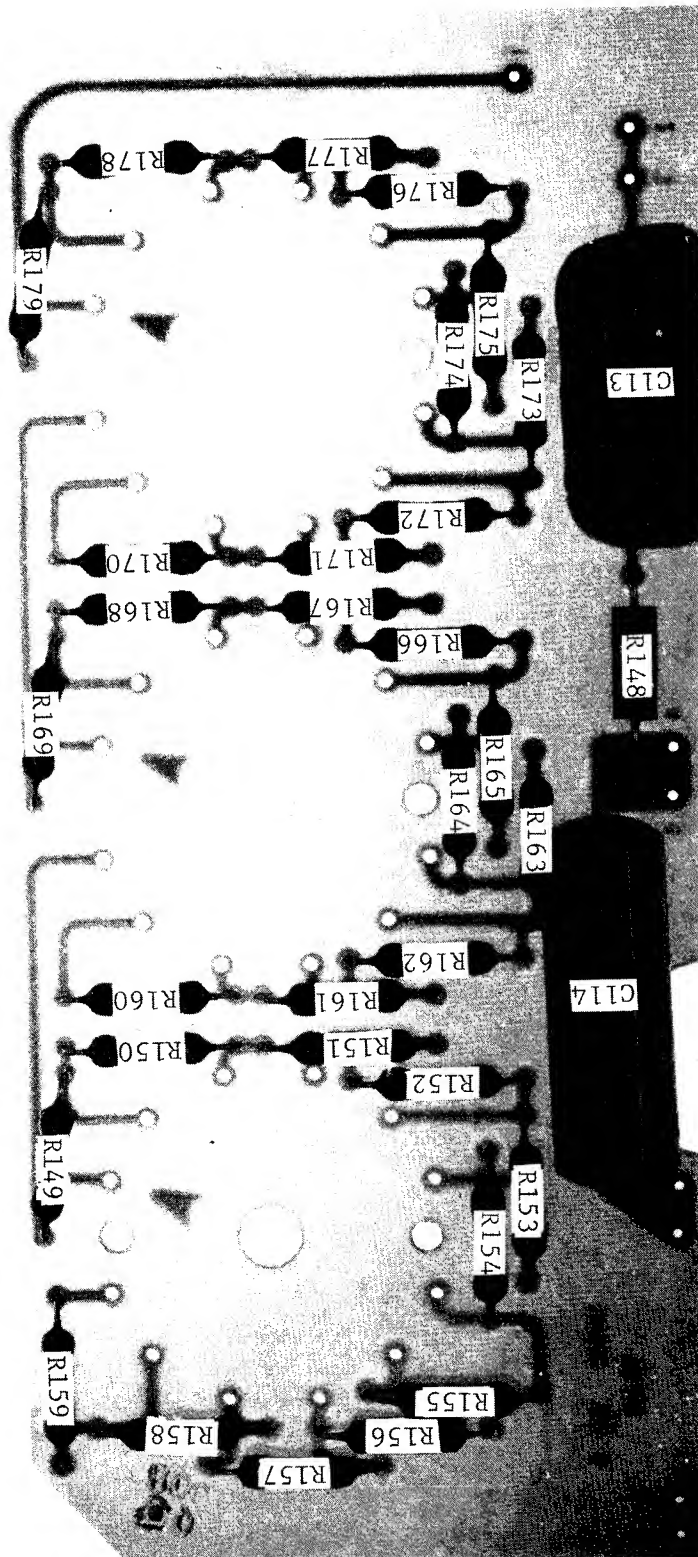
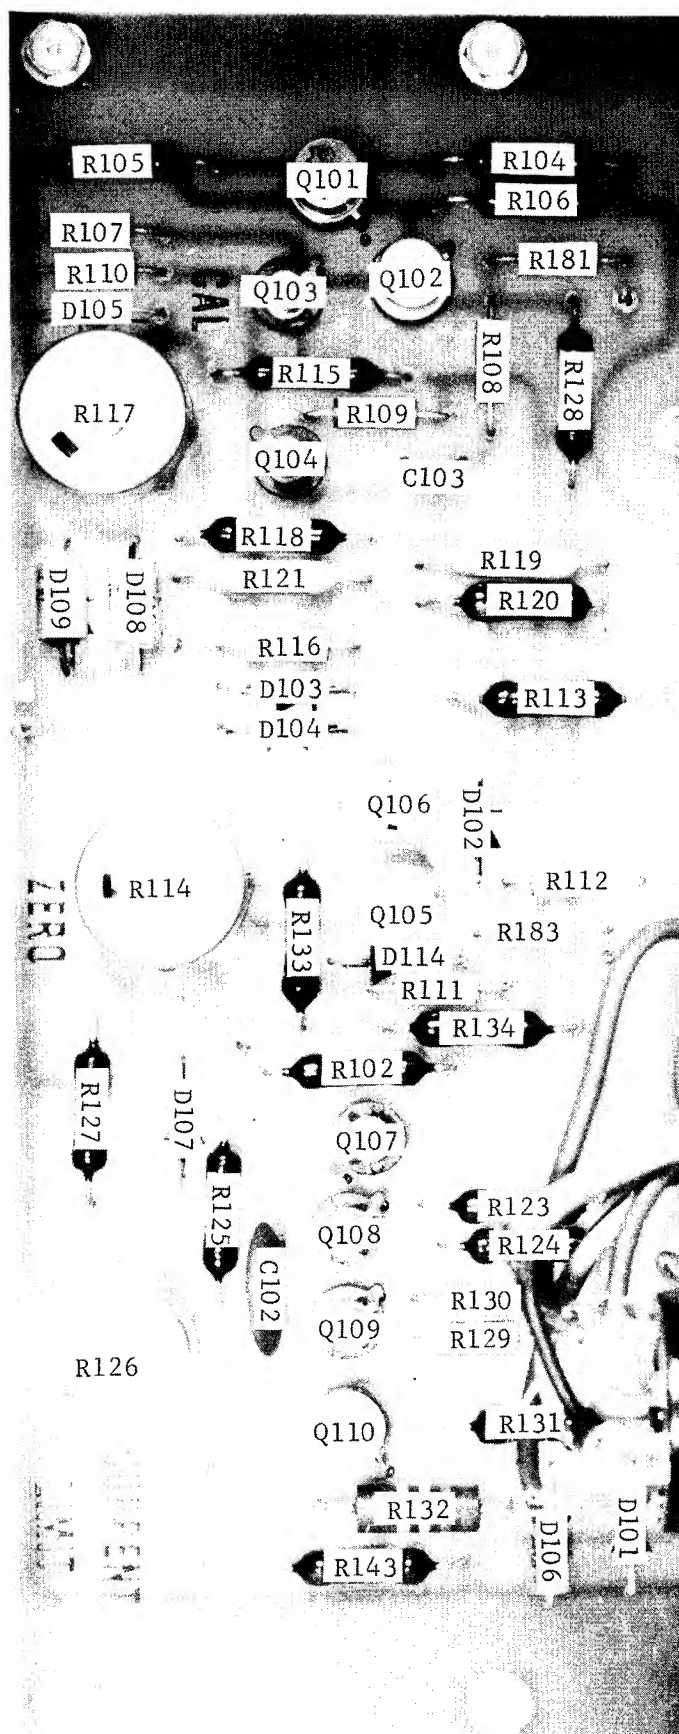

FIGURE 9. Chassis, Top View.
FIGURE 11. Component Layout, PC-117 (Part 1).
a. Removing tube V101 (Figure 9) from the socket unloads the high voltage and filament winding of the transformer.
a. To troubleshoot the voltage control amplifier, first remove the high voltage. Turn the ON Switch off. Remove tube V101 (Figure 9) from its socket and disconnect the plate cap. Make sure the plate cap is clear of all surrounding components. Place a shorting jumper across either diode D108 or D109 (Figure 11).
c. Connect the Model 153 between pin 5 of tube V101 and ground. Turn the Model 240A on. Adjust the ZERO potentiometer R114 (Figure 11). Turning the potentiometer should swing the voltage from approximately 0 to -36 volts. Set the potentiometer for -20 volts.
b. Set the front panel controls as in paragraph 4-7, b. Since there is no overload, there should be a reverse voltage across diode D107 (Figure 11). The amplifier should be in its normal mode.
b. In overload condition, the voltage between the emitter and collector of transistor Q110 (Figure 11) should be more than -105 volts. If it is and the lamp will not light, then the lamp is defective.
c. If -105 volts is not present, then either transistor Q109 or Q110 (Figure 11) or the associated circuitry is defective. Measure the voltages within the circuits to locate the trouble.
Connect the Model 153 to the Model 240A OUTPUT Receptacle and set it initially to its 10-millivolt range. Adjust the ZERO potentiometer, R114 (Figure 11), for zero output ± 1 millivolt.
b. The Model 662 should read the Model 240A output to $\pm 0.5\%$. If necessary, adjust the output using the CAL potentiometer R117 (Figure 11). If the potentiometer does not have sufficient range, add or remove jumpers across resistors R119, R120 and R121 (see schematic diagram 19197D).
c. For a quick check, measure the output voltage at several different settings. Adjust the CAL potentiometer R117 (Figure 11) for minimum percentage deviation from the dial setting.
Adjust the CURRENT LIMIT potentiometer R126 (Figure 11) until the output current is 12.5 milliamperes ± 0.2 milliampere.